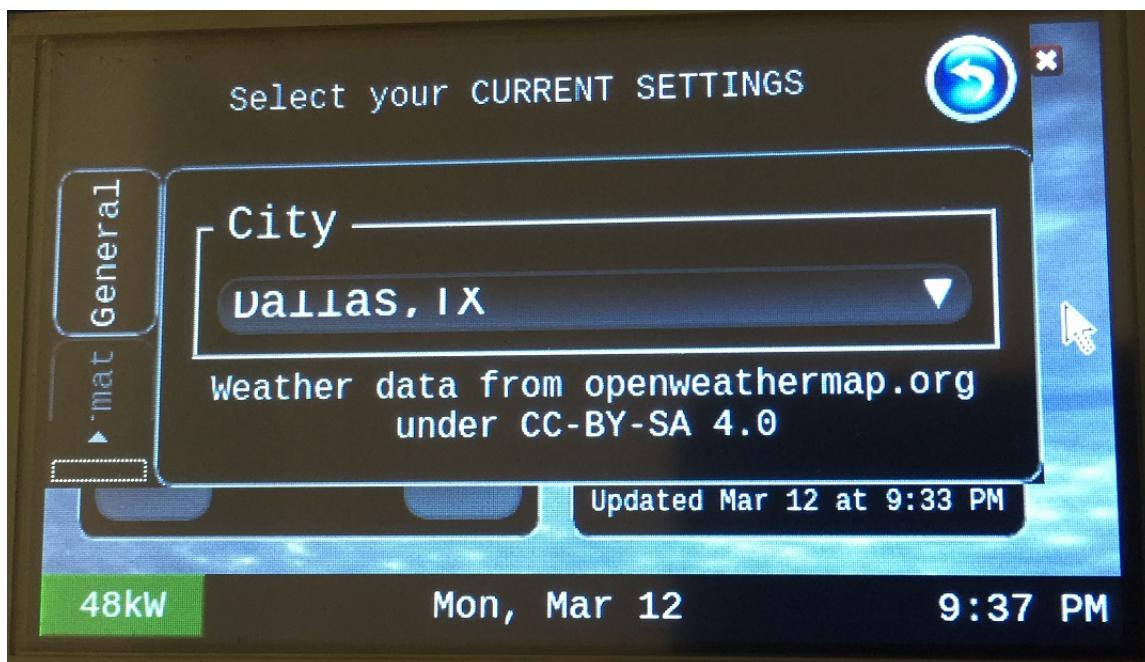
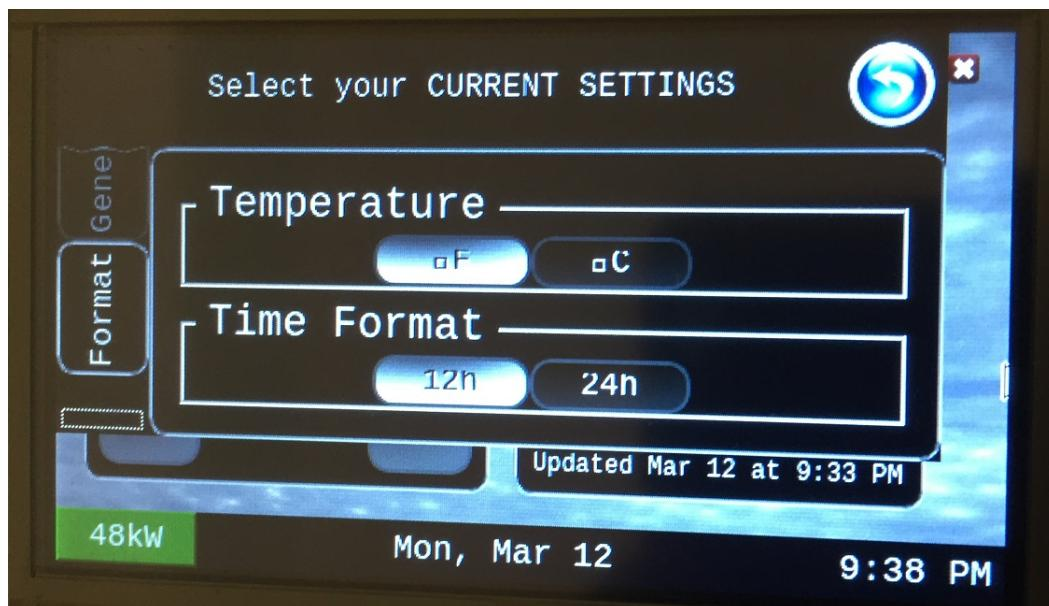
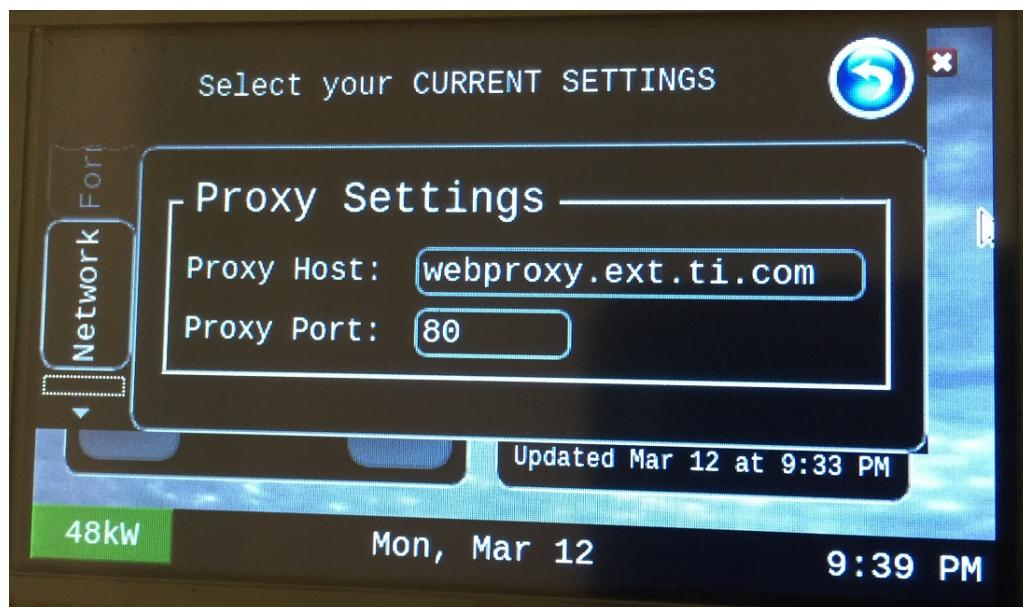

図 12. Smart Thermostat Demo GUI: City Select Screen
図 13. Smart Thermostat Demo GUI: Temperature and Time Format Setting Screen
図 14. Smart Thermostat Demo GUI: Network Proxy Setting Screen
7. The Click to Settings icon in 図 9 leads to the city select screen shown in 図 12.
8. The Format option in 図 12 leads to the temperature and time format select screen shown in 図 13.
9. The Network option in 図 12 leads to the proxy settings screen shown in 図 14.